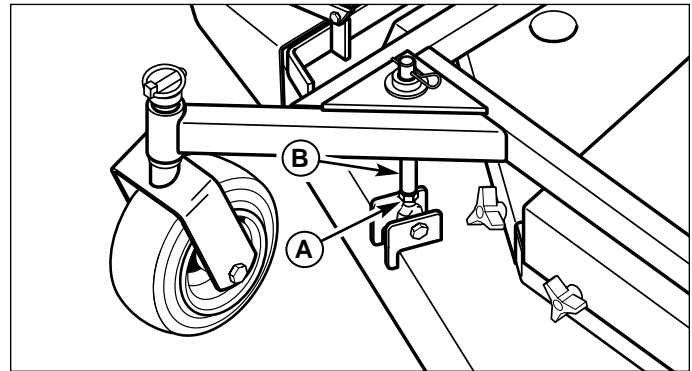

Figure 18. Front Hanger Shaft Adjustment
3. Loosen the jam nuts (A, Figure 18) located on the front deck hanger shafts (B, Figure 18). Turn the right side shaft until a cutting height of 2" is obtained at the very tip of the blade towards the front of the machine.